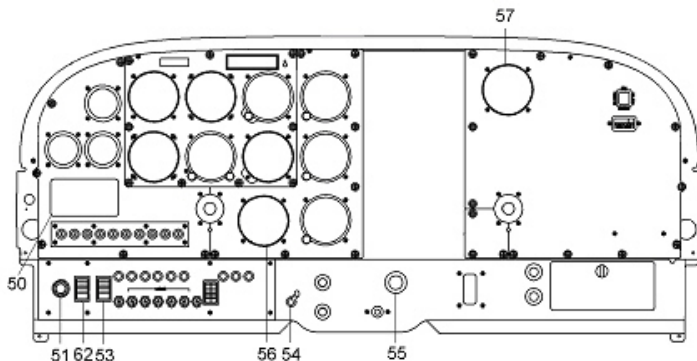

Figure 7-2b Example of Instrument panel with TAE 125 installation with switch Alternator
57. AED 125 SR with indication of Fuel Temperature, Voltage and a warning lamp "Water Level" (yellow) for low coolant level for Figure 7-2b only: